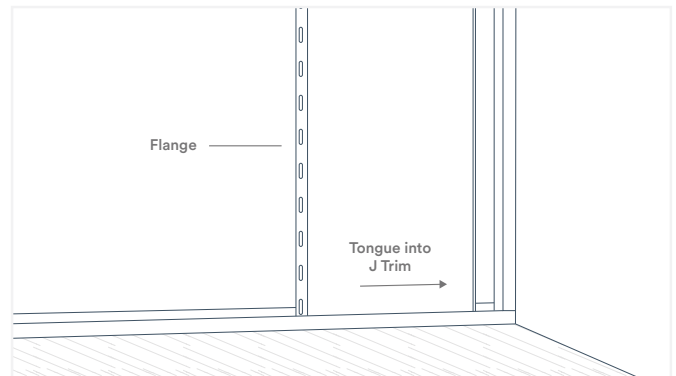

Fig. 11
4. Cut the length of the first panel for the first course. Place the panel with the tongue side in the corner trim and the groove (screw flange) side facing away from the wall (Fig. 11). Ensure the panel is parallel to the outside wall before fastening. Leave a 1/8" gap between the tongue side of the panel and the adjoining trim. Fasten a minimum of once every 24" with the recommended screws